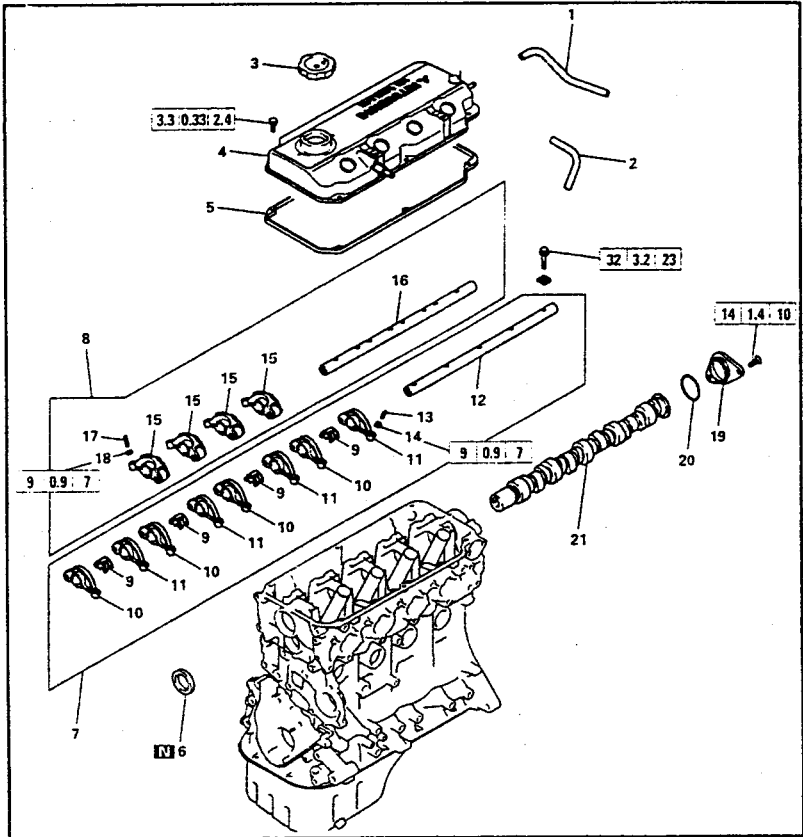
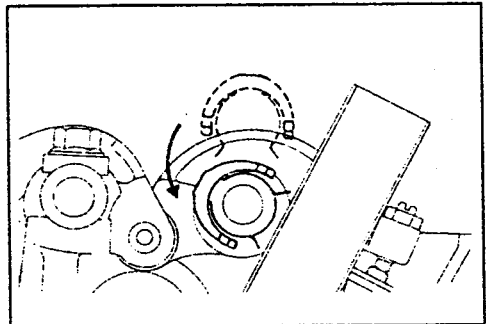

Fig. 1.17. — The arrangement of the rocker shaft assembly and the camshaft of a 1.8 litre engine.
Fig. 1.25. — Insert the rocker shaft springs from above and then rotate them in the direction of the arrow (inlet side shaft only).
The individual components of the valve and timing mechanisms should be checked for wear or damage and parts must be repaired or overhauled as necessary. The engine has an overhead camshaft. The camshaft is inserted into the cylinder head, i.e. no bearing caps are used. The rocker shaft assembly of both engines is made-up of two rocker shafts with their respective rocker levers, springs, etc. The exhaust rocker shaft carries the four double exhaust valve rocker arms, the inlet rocker shaft carries eight individual inlet valve rocker arms. Fig. 1.17 shows the component parts on the example of a 1.8 litre engine. A very similar arrangement is used on the 2.0 litre engine.
Refer to Fig. 1.17 and fit the parts over the two shafts in the order shown. Temporarily tighten the rocker shaft with the bolt so that all arms on the inlet valve side do not push the valves. Fit the rocker shaft springs (9) from above as shown in Fig. 1.25 and then rotate each spring in the direction of the arrow. Tighten the rocker